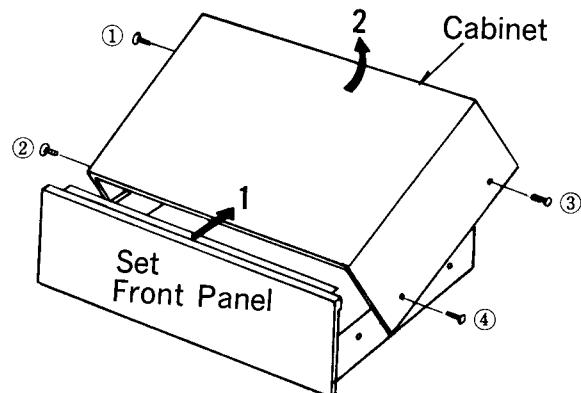

Fig. 1
1. Remove four (4) cabinet-mounting screws, nos.①~④ as shown in Fig. 1.
2. Remove cabinet from chassis in arrow direction 1 to 2, as shown in Fig. 1: